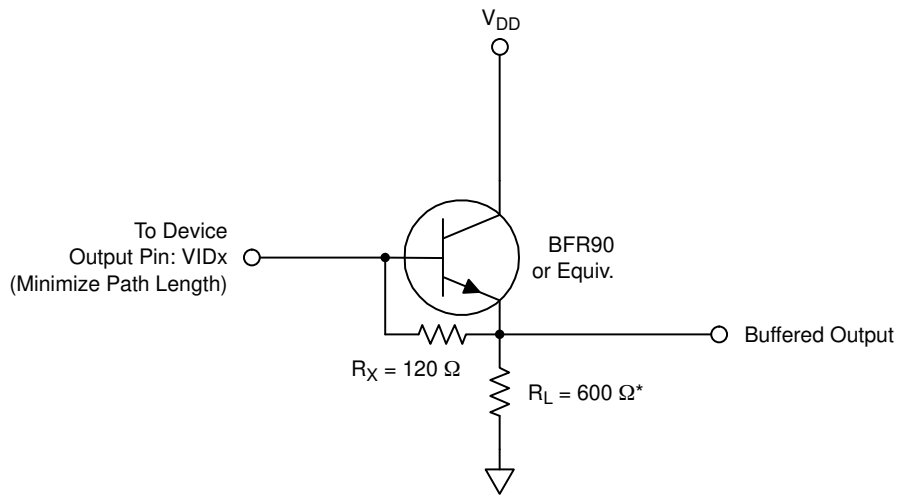

Figure 23. Typical Output Bias/Buffer Circuit
1. A current sink must be supplied for each output. Load capacitance should be minimized so as not to limit bandwidth. The values of R_X and R_L should be chosen to optimize for a given operating frequency, but, R_X should not be less than $75\ \Omega$. The values shown in Figure 23 below represent one possible solution.